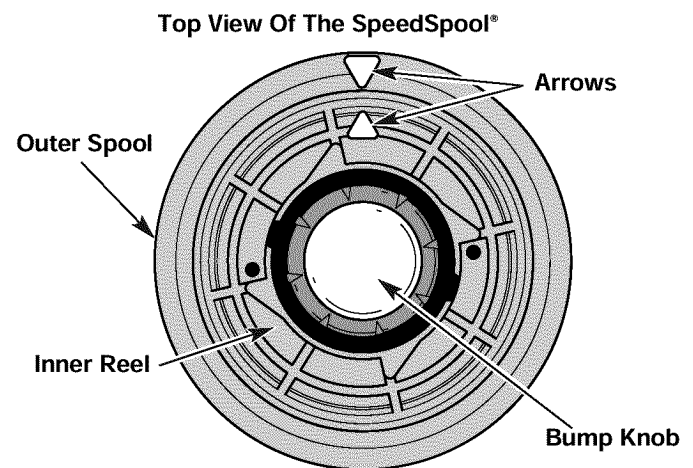

Fig. 16
2. Hold the outer spool and turn the inner reel counterclockwise to line up the arrows on the outer spool and inner reel (Fig. 16).